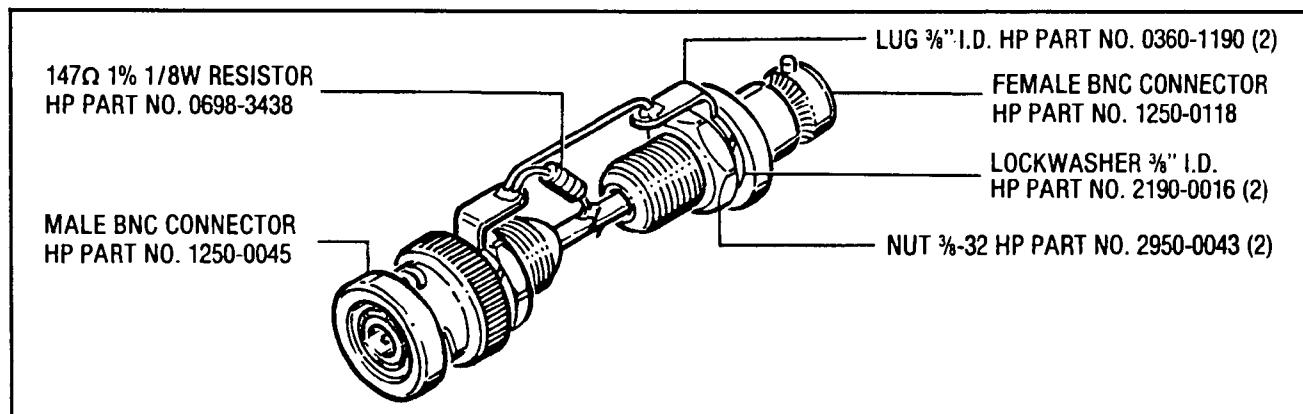
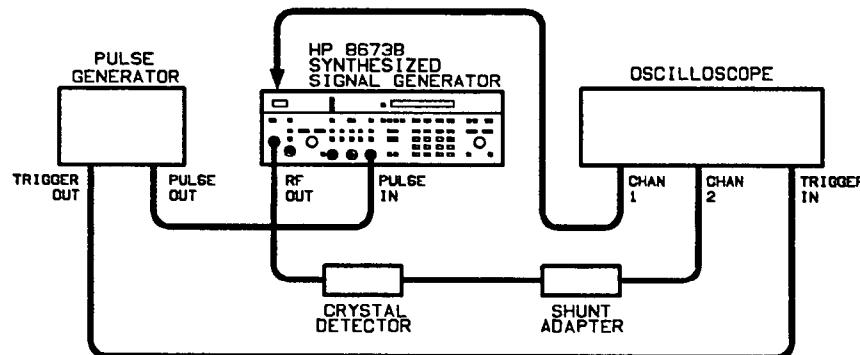

Figure 5-36. Pulse Shunt Adapter
Figure 5-37. ALC Sample Pulse Adjustment Test Setup
Shunt Adapter	Fabricated Locally (see figure 5-36)
6. Connect channel 2 to the shunt adapter (figure 5-36) output as shown in figure 5-37. The cable between the oscilloscope and the shunt adapter must not be longer than 24 inches.
The shunt adapter can easily be fabricated using 2 BNC connectors and a 147 ohm resistor as shown in figure 5-36.
Shunt Adapter	Locally fabricated (see figure 5-36)